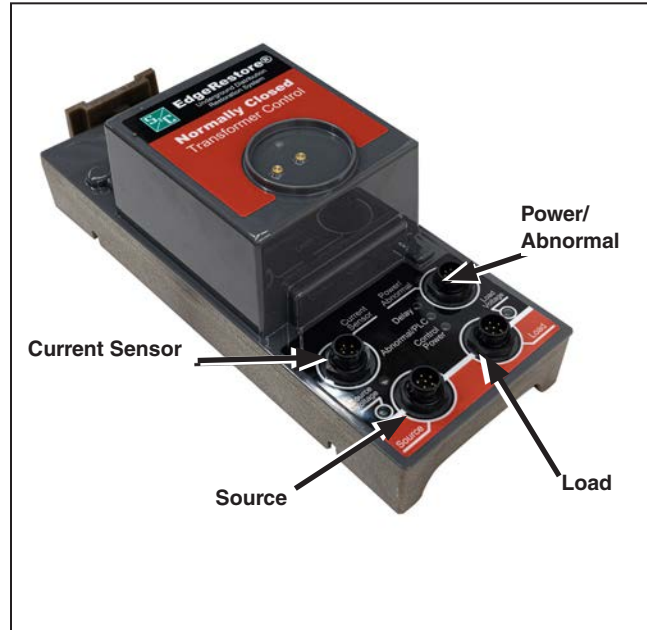
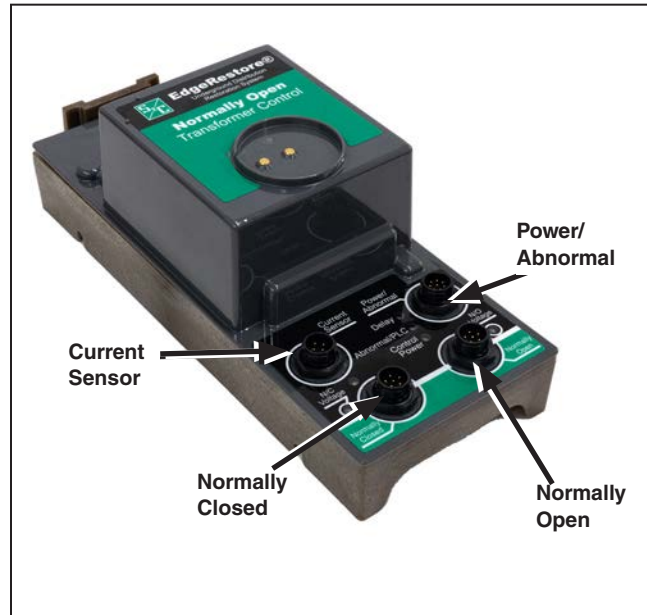
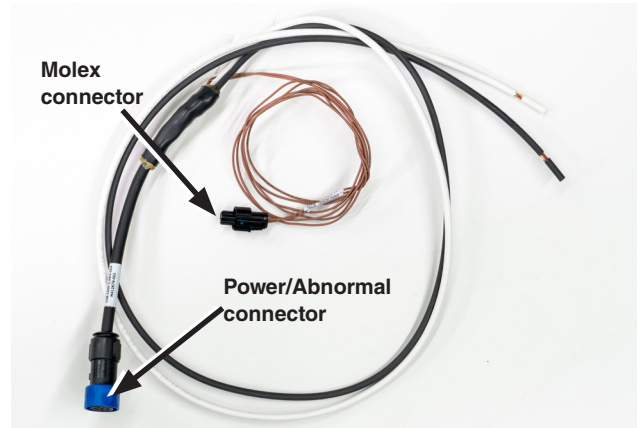
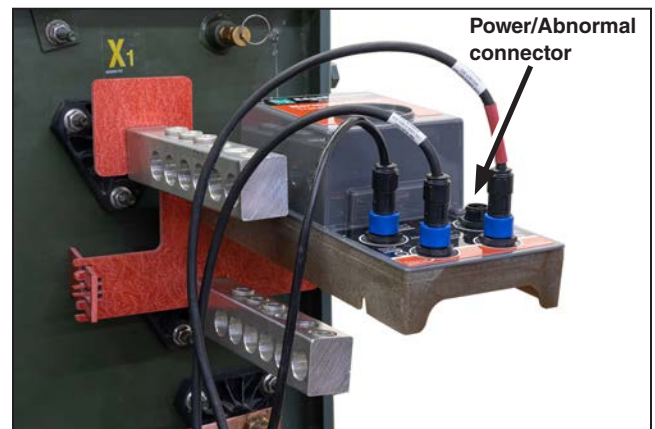

Figure 45. Control connections. A normally closed control shown.
Figure 46. Control connections. A normally open control is shown.
Figure 47. Attach the power connector to the control.
Figure 48. Control connections. A normally closed control is shown.
**STEP 4.** Connect the current sensor connector to the control's four-pin connector labeled "Current Sensor." See Figure 45 and Figure 46 on page 30.
**STEP 2.** Connect the current sensor connector to the control's four-pin connector labeled "Current Sensor." See Figure 45 and Figure 46 on page 30.
- STEP 1.** Connect the control cable on the bushing well interrupter connected to the source (utility) side to the six-pin connector labeled “Source.” See Figure 45.
- STEP 2.** Connect the control cable on the bushing well interrupter connected to the load (toward the normally open transformer) to the six-pin connector labeled “Load.” See Figure 45.
A complete installation is shown in Figure 48 on page 31.
- STEP 1.** Connect the control cable on the normally closed bushing well interrupter to the six-pin connector labeled “Normally Closed.” See Figure 46.
- STEP 2.** Connect the control cable on the normally open bushing well interrupter to the “Normally Open” six-pin connector. See Figure 46.
A complete installation is shown in Figure 48 on page 31. A normally closed control is shown, but a normally open one is similar.
Typically there is a lighting connection on the transformer secondary connections that can be used for this purpose. Plug the six-pin connector into the Power/Abnormal connector on the control. See Figure 45 and Figure 46 on page 30, and Figure 47 and Figure 48.
A Molex 2042200002 connector is available to connect the control to monitoring systems that can detect a dry contact that indicates whether the control is in an **Abnormal** state. If the control won't be connected to remote monitoring, leave the connector and wire coiled, as shown in Figure 47. For more information, contact the local S&C Sales Office.
- ❑ Make sure the control cables from the H1A and H1B bushing well interrupters are connected to the control based on the direction of current flow (load or source for normally closed controls, normally open or normally closed for normally open controls) through the transformer. There is a red band on the H1B control cable to help differentiate the cables when making connections to the control. See Figure 45 and Figure 46 on page 30.